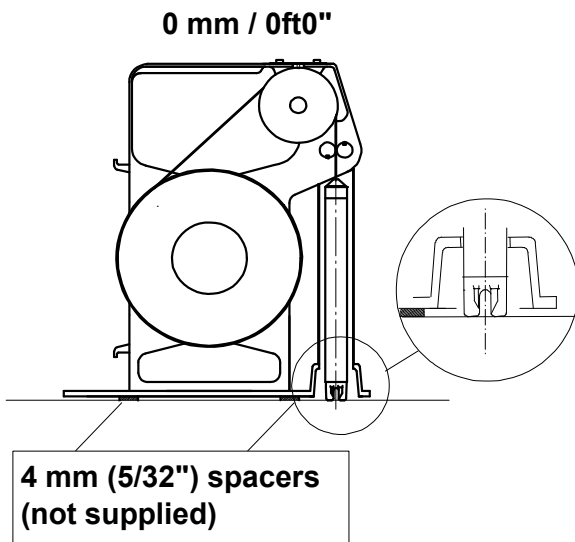

Figure 8-12
- gently lower the tape until the sensor gets in contact with the surface(Figure 8-12);